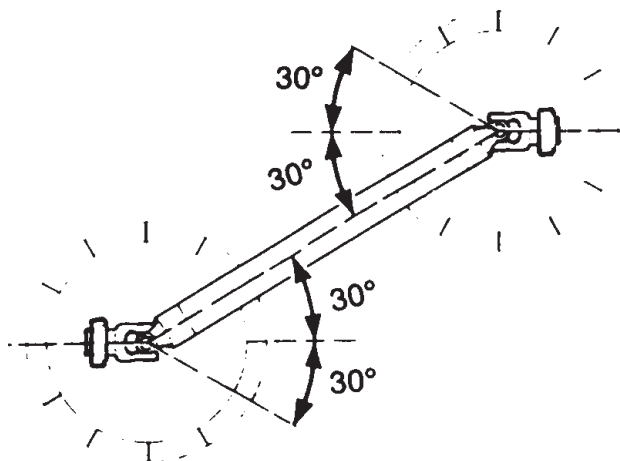

Figure 10
6. Check the angle of the joints at each end of the IID shaft when the mower is in operating position. The maximum operating angle is 30 degrees. (See **Figure 10**.)